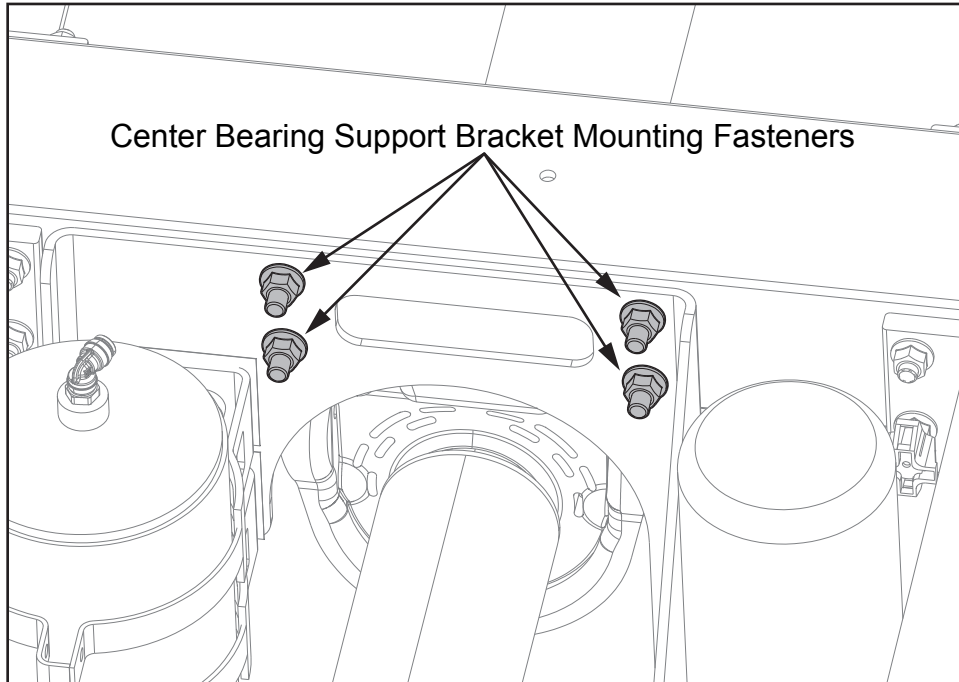

Figure 6, DC vehicles, center bearing support bracket
8. For DC vehicles. Locate the 4 center bearing support bracket mounting fasteners and tighten to 90 Lbs-ft of torque (see *Figure 6*).